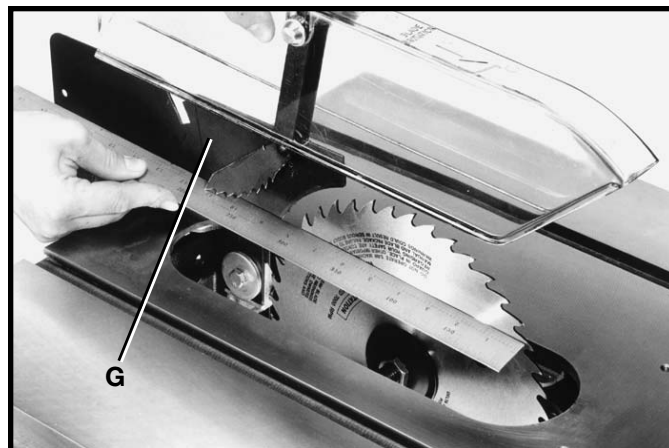
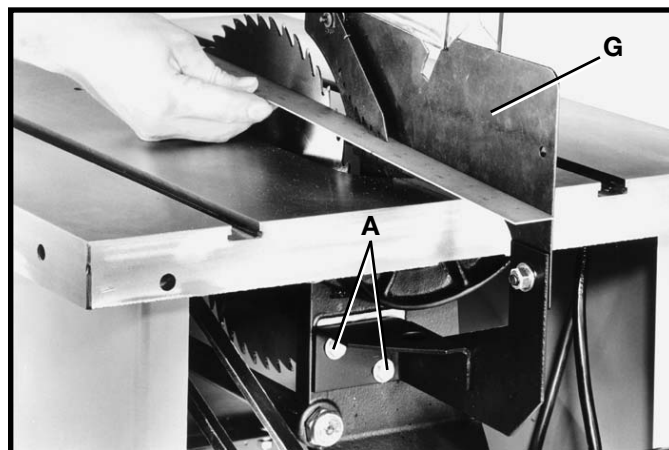

Fig. 36
Fig. 37
10. Using a straight edge, check to see if the saw blade is aligned with the rear of the splitter (G), as shown in Figs. 36 and 37. If alignment is necessary, loosen the screws (A) Fig. 37, align splitter (G) with the saw blade, and tighten two screws (A).